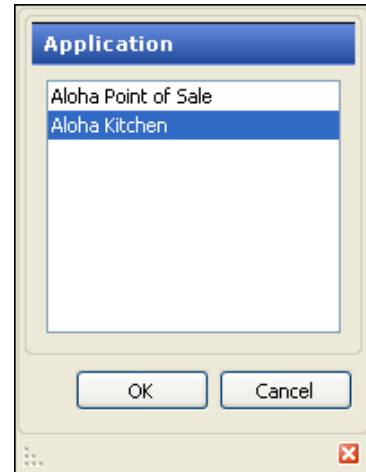

Figure 33 Application (Printers)
2. Click the **New** drop-down arrow, select **Aloha Kitchen** from the 'Select Type' dialog box, and click **OK** (Figure 33).